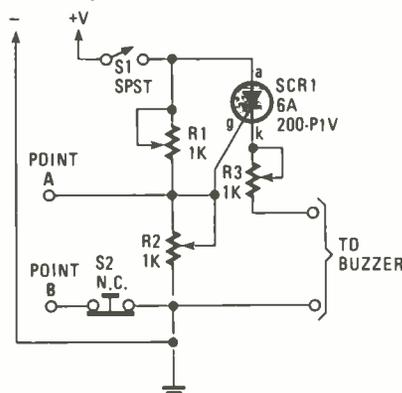

Fig. 3—The Alarm Circuit uses SCR1 (connected in a closed-loop) to detect unauthorized-entry. When the loop opens, the SCR turns on, sounding the buzzer.
Turn your attention to Fig. 3. Tim says, and I quote, "It works like a million bucks." However, checking the schematic, you'll find that it doesn't cost anywhere near that much!
2. A pure pulse output using just the average pulse output (See Figs. 3 and 6).